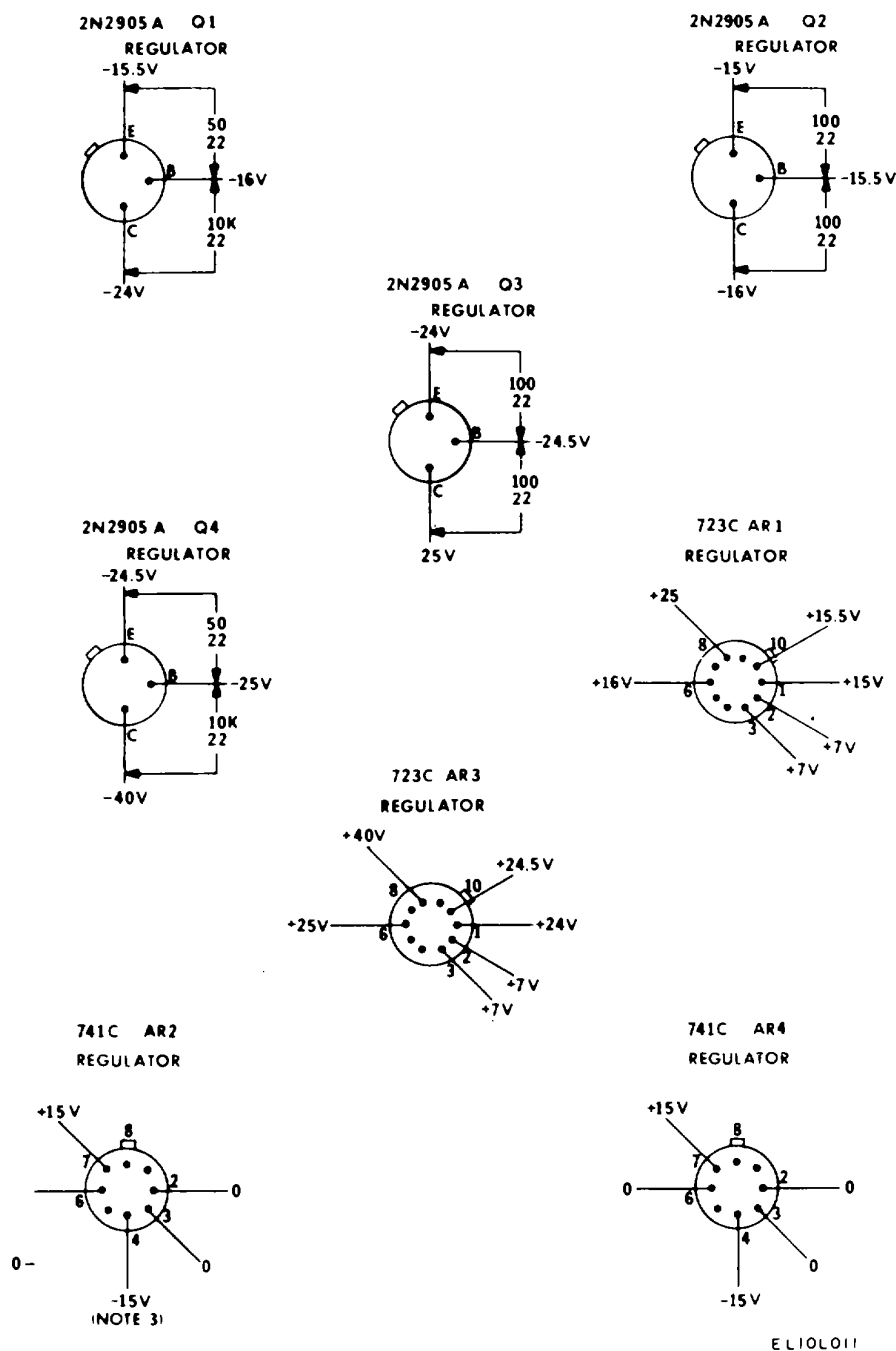

Figure 7-3. Power supply regulator, circuit measurements
location of the power supply assemblies and to figures 7-1 and 7-2 for parts location and test point location on the A11 assembly. Figure 7-3 gives circuit voltage and resistance measurements for assembly A11.
(1) Remove assembly A11 from its socket and perform the resistance measurements in table 7-4, using the RX1 scale on the multimeter. Make the measurements at the socket.
(2) If the resistance measurements are correct, reinstall A11 and perform voltage and resistance measurements as indicated in figure 7-3 to locate the defective part. If the resistance readings are lower than indicated, there may be a short circuit in the equipment. Systematically remove and replace the other assemblies to determine the location of the defect.